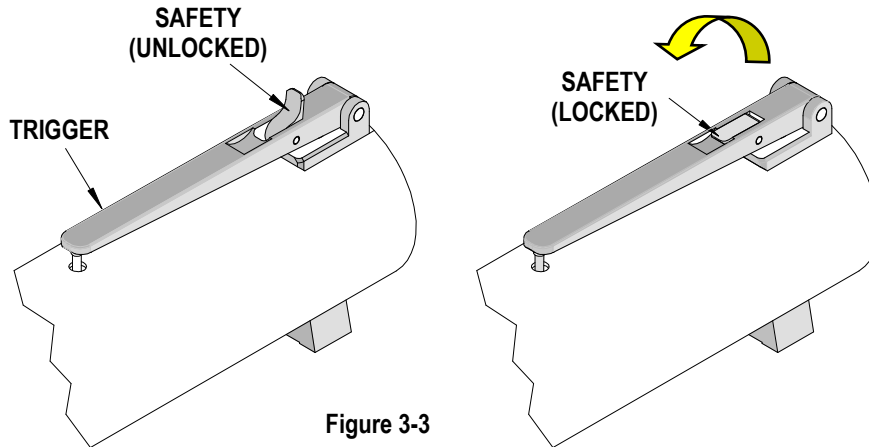

Figure 3-3
3. Next lock the trigger on the actuator by flipping the safety switch. Push the safety switch all the way down on the end of the trigger to lock. See Figure 3-3.
To actuate the crimping tool, first lift the safety lock lever on the trigger. See Figure 3-3. The tool can now be actuated by depressing the trigger and holding until the ram is fully extended. After the ram has been extended fully, release the trigger and the ram will return.